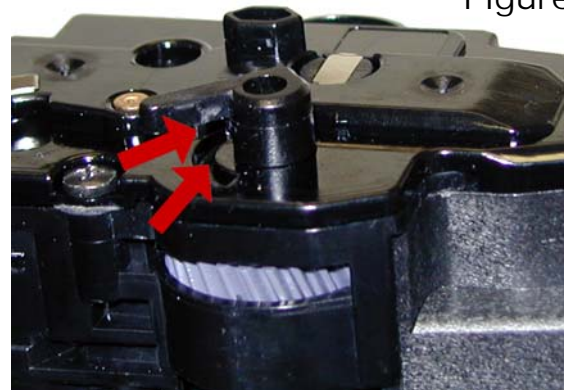

Figure 49
42) Press the drum axle bushing in place. Set it so the small tab is at the end of the groove; make sure it is fully seated. The two small bushings are different. Make sure you have the correct bushing for this side. See **Fig. 49**